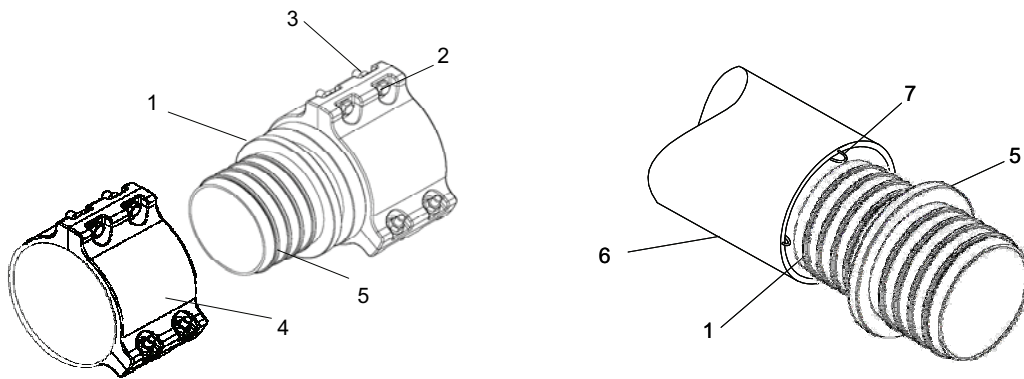

Figure 20. Hose Assembly Repair.
18. Remove four segment bolts (Figure 20, Item 2) and four nuts (Figure 20, Item 3) from one segment clamp (Figure 20, Item 4) of the 6 inch hose mender (Figure 20, Item 1).
19. Loosen the two additional clamp bolts on the segment clamp (Figure 20, Item 4).
20. Separate segment clamp (Figure 20, Item 4) from the 6 in. hose mender (Figure 20, Item 1) where bolts have been removed.
21. Lightly lubricate the seal (Figure 20, Item 5) on hose mender with petrolatum.
22. Slide hose (Figure 20, Item 6) over coupler and ensure that the ground wires (Figure 20, Item 7) are between the interior wall of the hose (Figure 20, Item 6), and the coupler (Figure 20, Item 1).
23. Once the hose is seated against the shoulder, install the segment clamp (Figure 20, Item 4).
24. Tighten the six clamp bolts (Figure 20, Item 2) and nuts (Figure 20, Item 3) with a wrench in small increments, using a criss-cross pattern until all bolts are tightened.